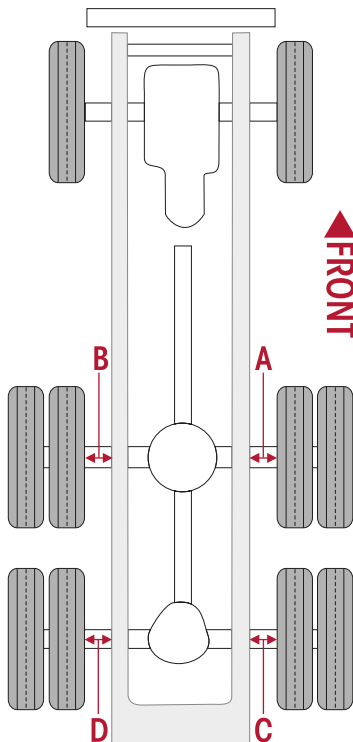

Figure 30: Checking Tandem Axle Lateral Alignment
3. Measure from the outside of the frame rail to the rim flange of the inner wheel. Record the measurement A and B. Refer Figure 30.